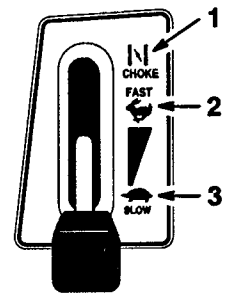

Figure 9
4. Move the throttle lever to "CHOKE" (Fig. 9).
6. After the engine starts, slowly move the throttle lever to "FAST" (Fig. 9). If the engine stalls or hesitates, move the throttle lever back to "CHOKE" for a few seconds. Then move the throttle lever to "FAST." Repeat this as required.
1. Move the throttle lever to "SLOW" (Fig. 9).